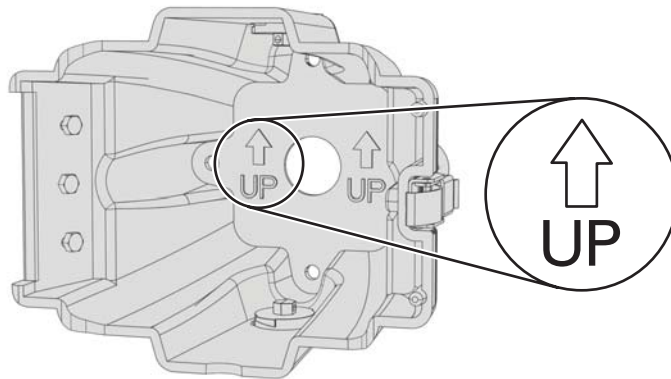

Figure 12. J-Box Orientation
3. Orient the J-box so that the arrows and the word UP are pointed up (refer to Figure 12).